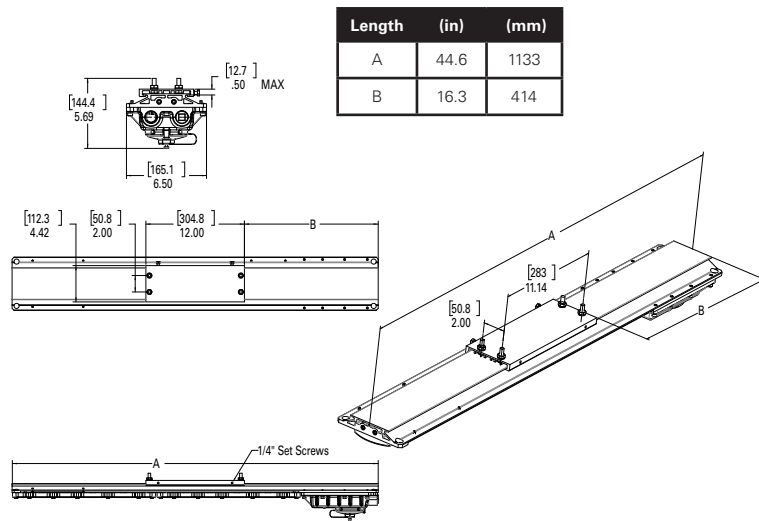

Figure 2. ZP1057MTK Back Mount Installation
1. For back mount, use the bracket as a template, mark and drill holes into the mounting surface and use supplied 5/16" bolts (see Figure 2).
3. It is strongly suggested to use two (2) qualified tradespeople to proceed with the final mounting of the luminaire. This is recommended to avoid any personal injury or damage to the luminaire.
4. Place the four (4) 5/16" bolts through the mounting plate and tighten evenly to the support structure. Minimum torque 138 in.-lbs. (15.6 N-m).
7. Tighten the four (4) 1/4" set screws on the slide bracket until they bottom. Torque to 78 in.-lbs. (8.8 N-m).